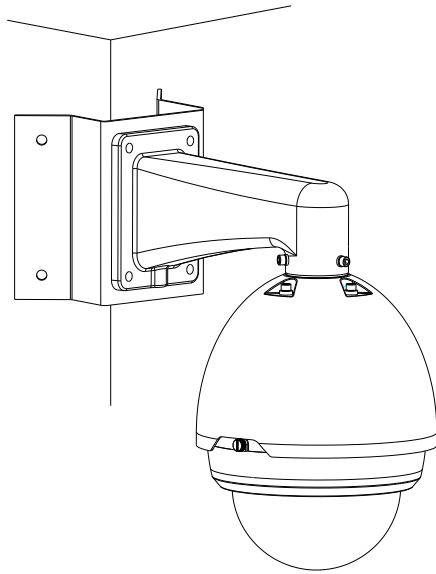

Figure 4-3
2). Please refer to chapter 1.3 for detailed installation information. See Figure 4-3.